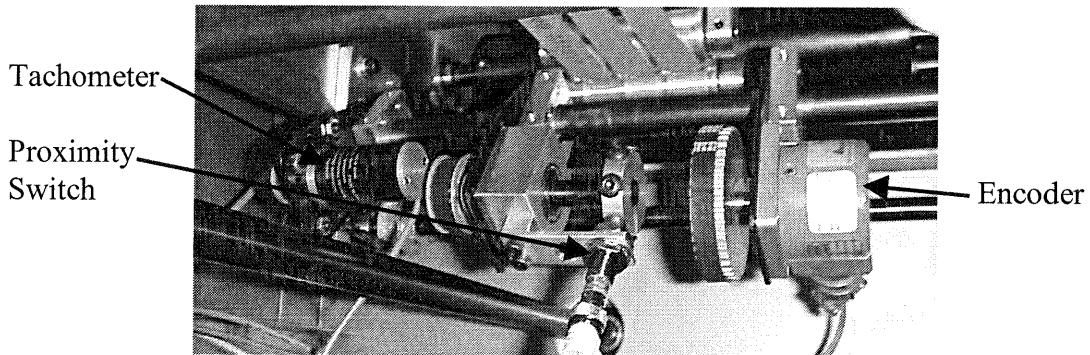

Figure 9.0
4.2.5 Base Electrical Component Description (see Figure 9.0)